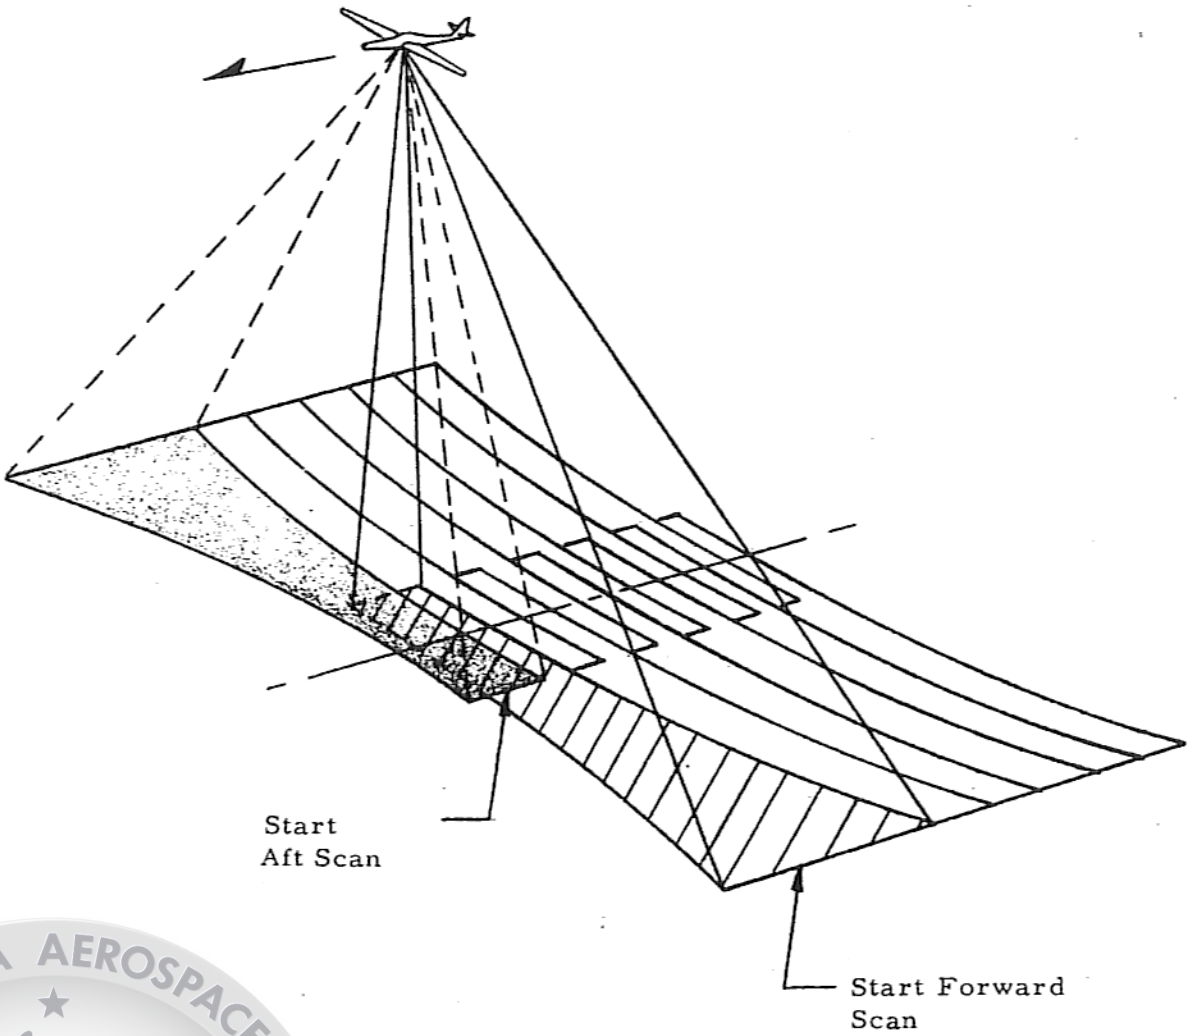
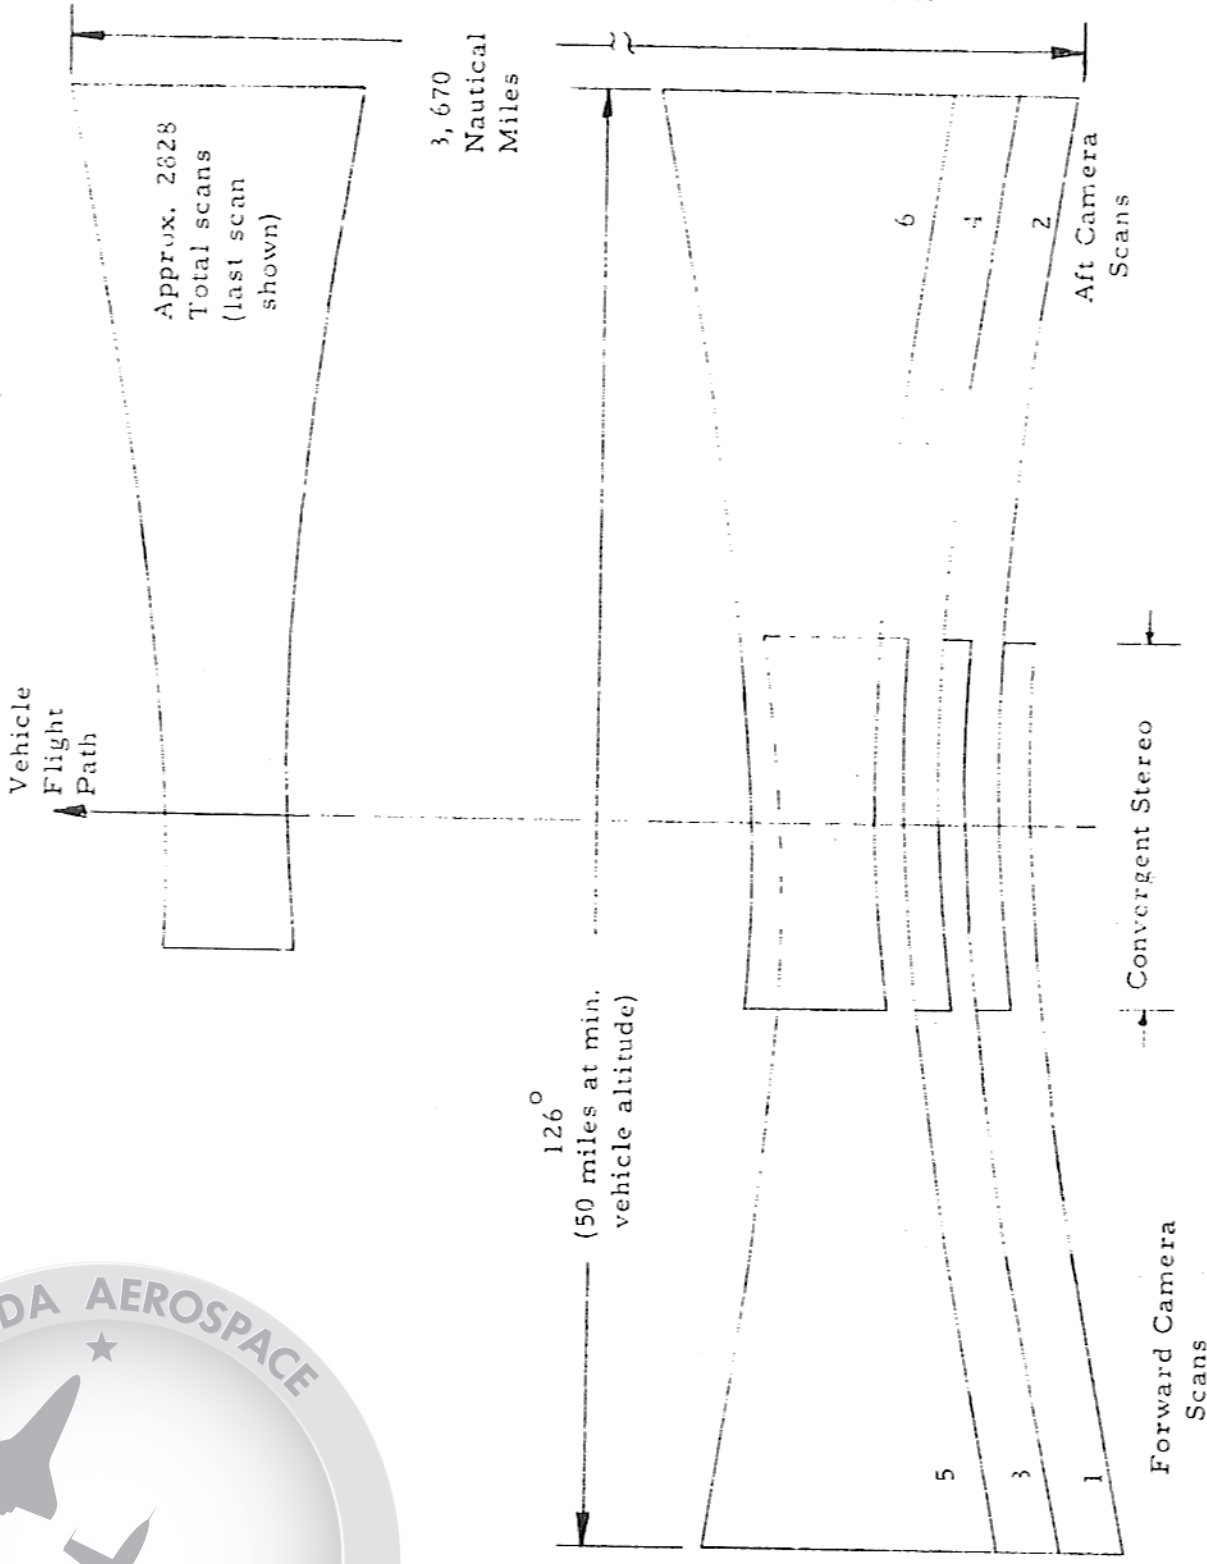

Figure 2-1. Aerial Panoramic Photography, Type II
Figure 2-2. Ground Coverage Format, Straight And Level Flight, Type II
- 2-3. Photographic coverage of the Type II system is represented in Figure 2-1. The forward camera scans the earth from 63° to the left of nadir to 30° to the right of nadir. The aft camera scans the earth from 30° to the left of nadir to 63° from the right of nadir. Each mission can provide 3670 nautical miles of flight line coverage on 2828 frames and 50 to 63 miles (or 126°) total transverse coverage. The scan overlap provides full stereo viewing of mission results for all points on each frame format. In addition to normal stereo, convergent stereo is available within the scan overlap of 30° each side of the vertical centerline. See Figure 2-2.